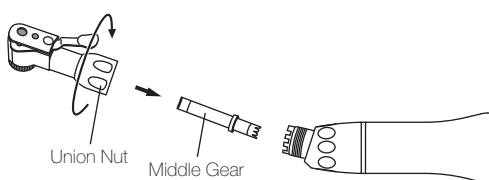

Fig.5
- 1) Check the union nut (Fig.5) on the head is firmly tightened. If loosened, tighten the union nut.
- 1) Loosen the Union Nut and remove the head from the sheath. Pull out the Middle Gear from the head. (Fig. 5)